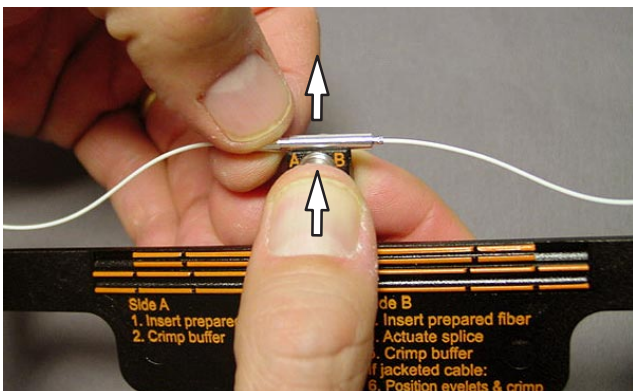

Figure 24
12. Grasp the button between the thumb and forefinger and squeeze to release the splice from the tool. See Figure 24.